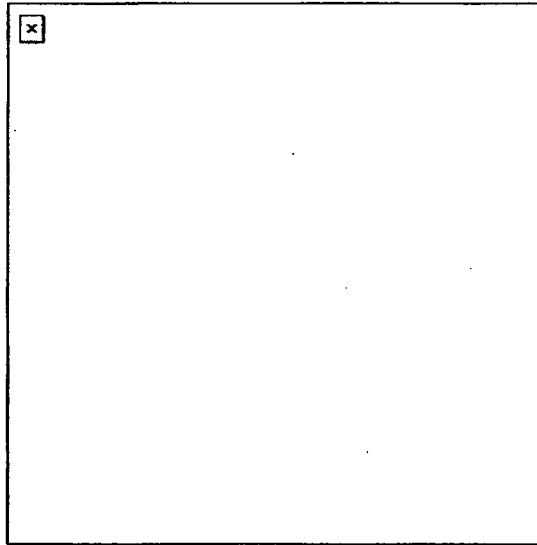

Figure 191-381-1370-6
- c. Swing your strong arm back and down in a windmill motion, encircling the internee's arms (Figure 191-381-1370-7).